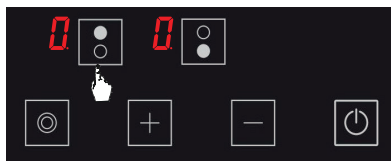

Figure 15
2. Press the upper hob selection key (🔼) again. (See Fig. 15)